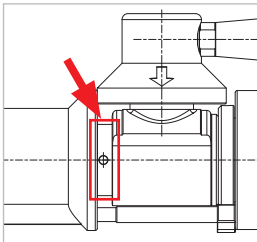

Figure 11
- ▶ Turn the actuation lever (Pos. 3) 90° from OFF to ON. Spray once onto the marked area (*Figure 11*).